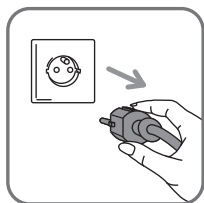

fig.2
- Before filling the water tank, unplug the iron **fig.2**.